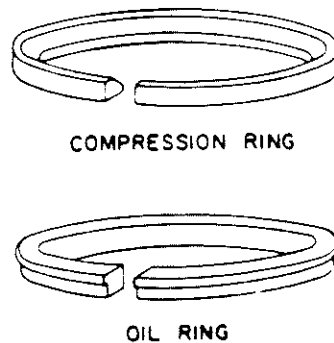

Figure 3-13. Piston Rings
d. If using double ring pistons, the oil ring is installed in the groove nearest the bottom and the compression ring in the groove nearest the top. The oil ring is notched on the outside circumference. This notch must be installed towards the bottom. (See figure 3-13.)